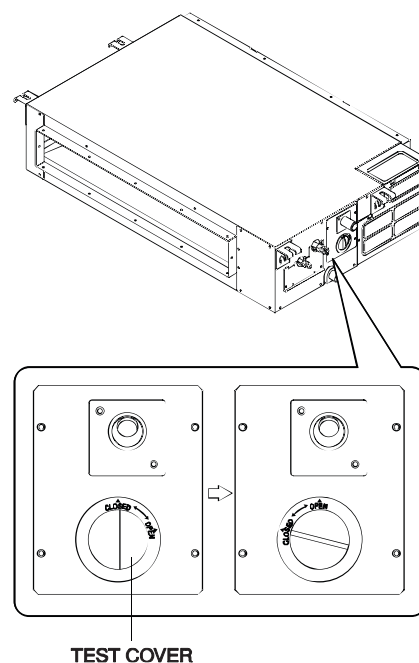

Fig. 27 — Check the Bends and Joints for Leakage
1. Remove the test cover by rotating it counter-clockwise as shown in Fig. 27.